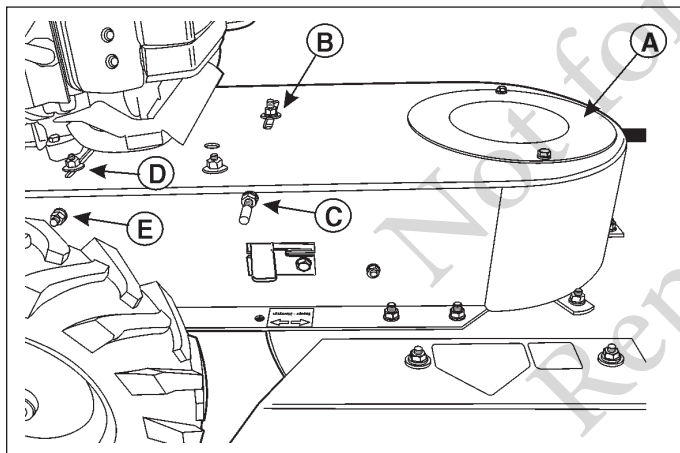
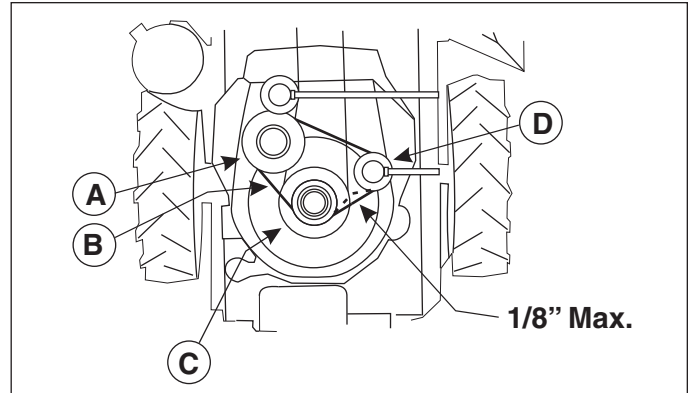
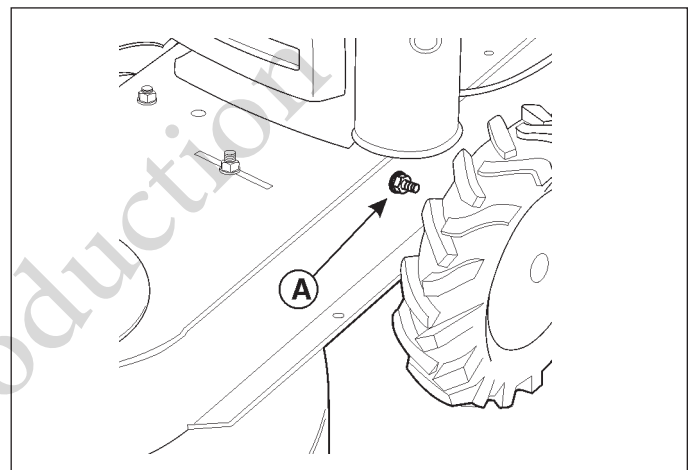
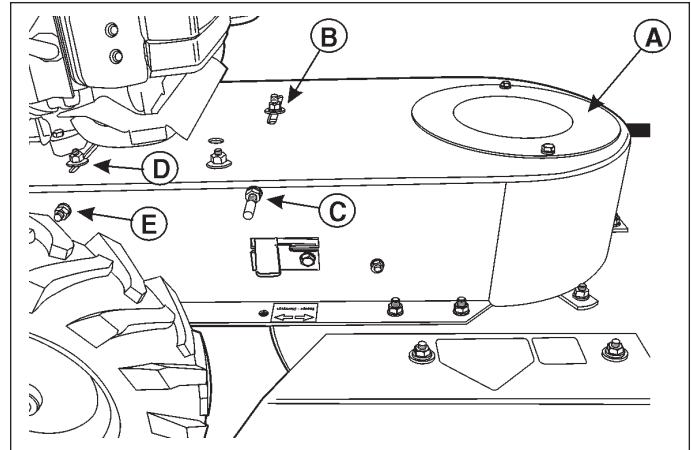

Figure 19 - Belt Adjustments
Figure 21 - Traction Drive Belt Adjustment
Figure 22 - Traction Drive Belt Adjustment
Figure 23 - Belt Adjustments
1. Remove clutch cover plate (A, Figure 19).
1. Remove blade clutch cover plate (A, Figure 19).
1. Loosen mower blade idler pulley lock nut (B, Figure 19).
2. Loosen or tighten mower blade idler pulley adjustment nut (C, Figure 19) as required.
1. Loosen traction drive idler pulley lock nut (D, Figure 19).
2. Loosen or tighten traction drive idler pulley adjustment nut (E, Figure 19) as required. Belt deflection should be approximately 1/8" halfway between the engine pulley (C, Figure 21) and idler pulley (D) with 10 lbs. of pressure on the belt.
1. Tighten or loosen nut (A, Figure 22) to achieve proper belt tension. Belt deflection should be approximately 1/8" halfway between the engine pulley (C, Figure 21) and idler pulley (D).
1. Remove clutch cover plate (A, Figure 23).
2. On early models only, loosen traction drive belt idler pulley lock nut (D, Figure 23) for the traction drive.
3. Loosen idler pulley adjustment by rotating adjustment nut (late models, A, Figure 22) or (early models, E, Figure 23).
5. Loosen mower belt idler pulley lock nut (B, Figure 23).
6. Loosen idler pulley adjustment by rotating adjustment nut (C, Figure 23).